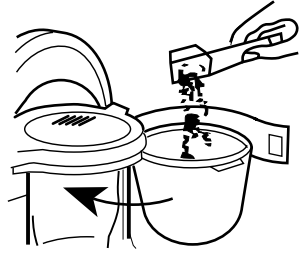

FIGURE 1
3. Put coffee grounds in the filter, using one level tablespoon of drip grind coffee for each cup of brewed coffee. (See Figure 1.)